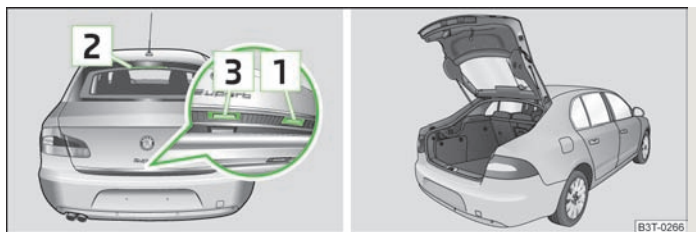

Fig. 19 Handle of boot lid/opened large boot lid
The large boot lid » Fig. 19 can be opened after unlocking the vehicle.
- Press the handle  » Fig. 19 on the bottom edge of the boot lid.